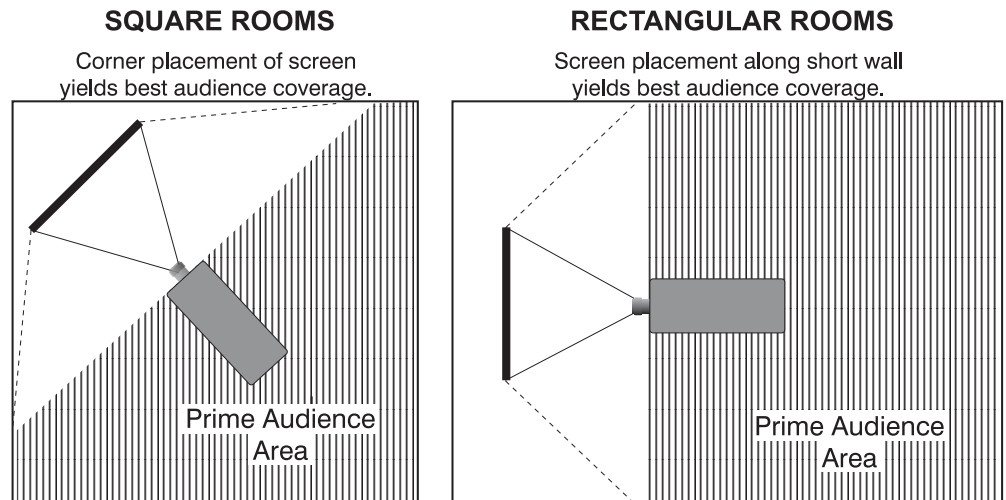

Figure 2.11. Screen Locations for Maximum Audience Coverage
- When laying out the projection room, consider positioning the projector and screen in a manner which will achieve maximum audience coverage and space efficiency. For example, placing the screen along the larger wall in a rectangular room will reduce audience coverage. Figure 2.11 shows two examples of how audience coverage is maximized.